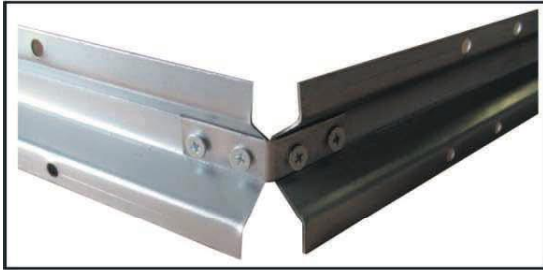

Fig. 8.1
8. Separately connect the upper bars (No. 2) to the connectors of the upper bar (a plate with 4 holes) (12) with M5-12 bolts (27) and M5 nuts (30), then tighten the ridge fixtures (No. 3) in places meant for this with M5-20 bolts (28) and M5 nuts (30). The same action is to be carried out with all bars (Fig. 8.1 – 8.4).